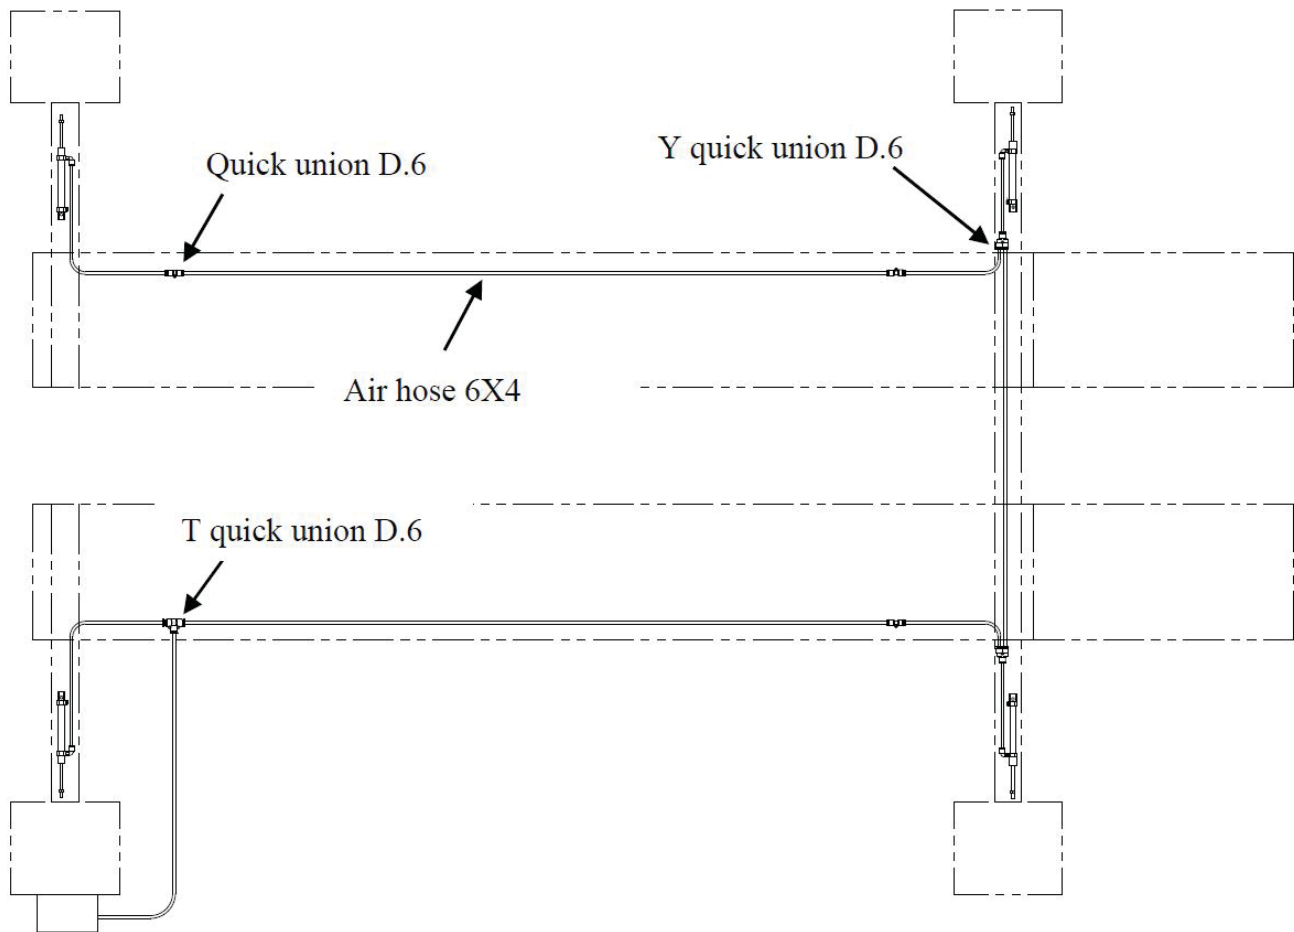

Figure 30 – Pneumatic Connection Diagram
- Connect the pneumatic lines referring to the diagram (fig.30);